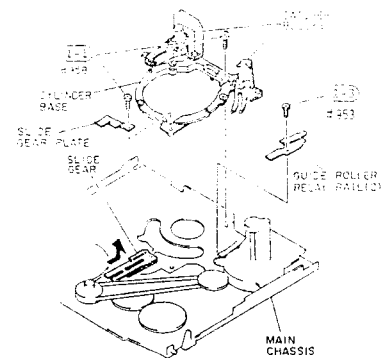

Fig. 2-71
- Remove two (2) screws holding the cylinder base. (See Fig. 2-71)
- Remove one (1) screw holding the guide roller relay rail (2). (See Fig. 2-71)
- Remove guide roller relay rail (2) from the main chassis.
- Remove the slide gear in the direction of the arrow from the main chassis. (See Fig. 2-71)